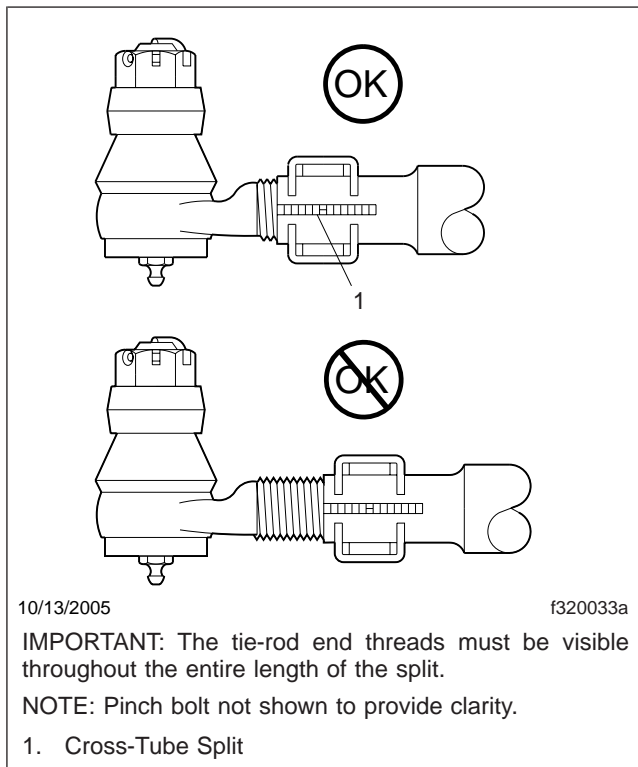

Fig. 3, Tie-Rod End Adjustment
- 2.2 The threaded portion of the tie-rod end assembly must be inserted all the way into the cross-tube split for adequate clamping. See Fig. 3. Replace the parts if this cannot be done. For instructions, see the axle manufacturer's service manual.